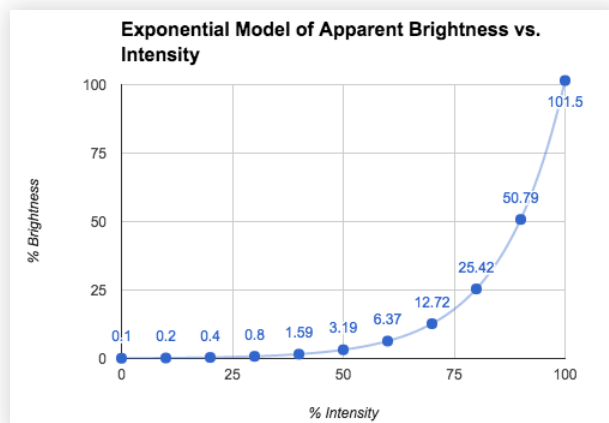

fig. 43
**Note:** Ketra's intensity slider uses an exponential model rather than linear. When the slider is at 90%, your lights will be at approximately 50%. See graph in fig. 43.